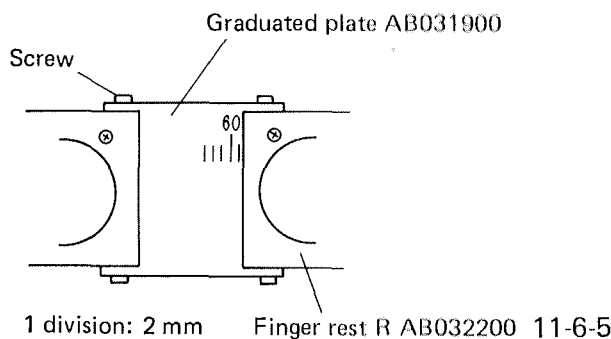

Fig. 11-21
- a) By using Jig B2KC0406, read left side position of Finger Rest R AB032200 on the Graduated Plate. The reading must be  $62 \pm 1\text{mm}$ . (See Fig. 11-21)